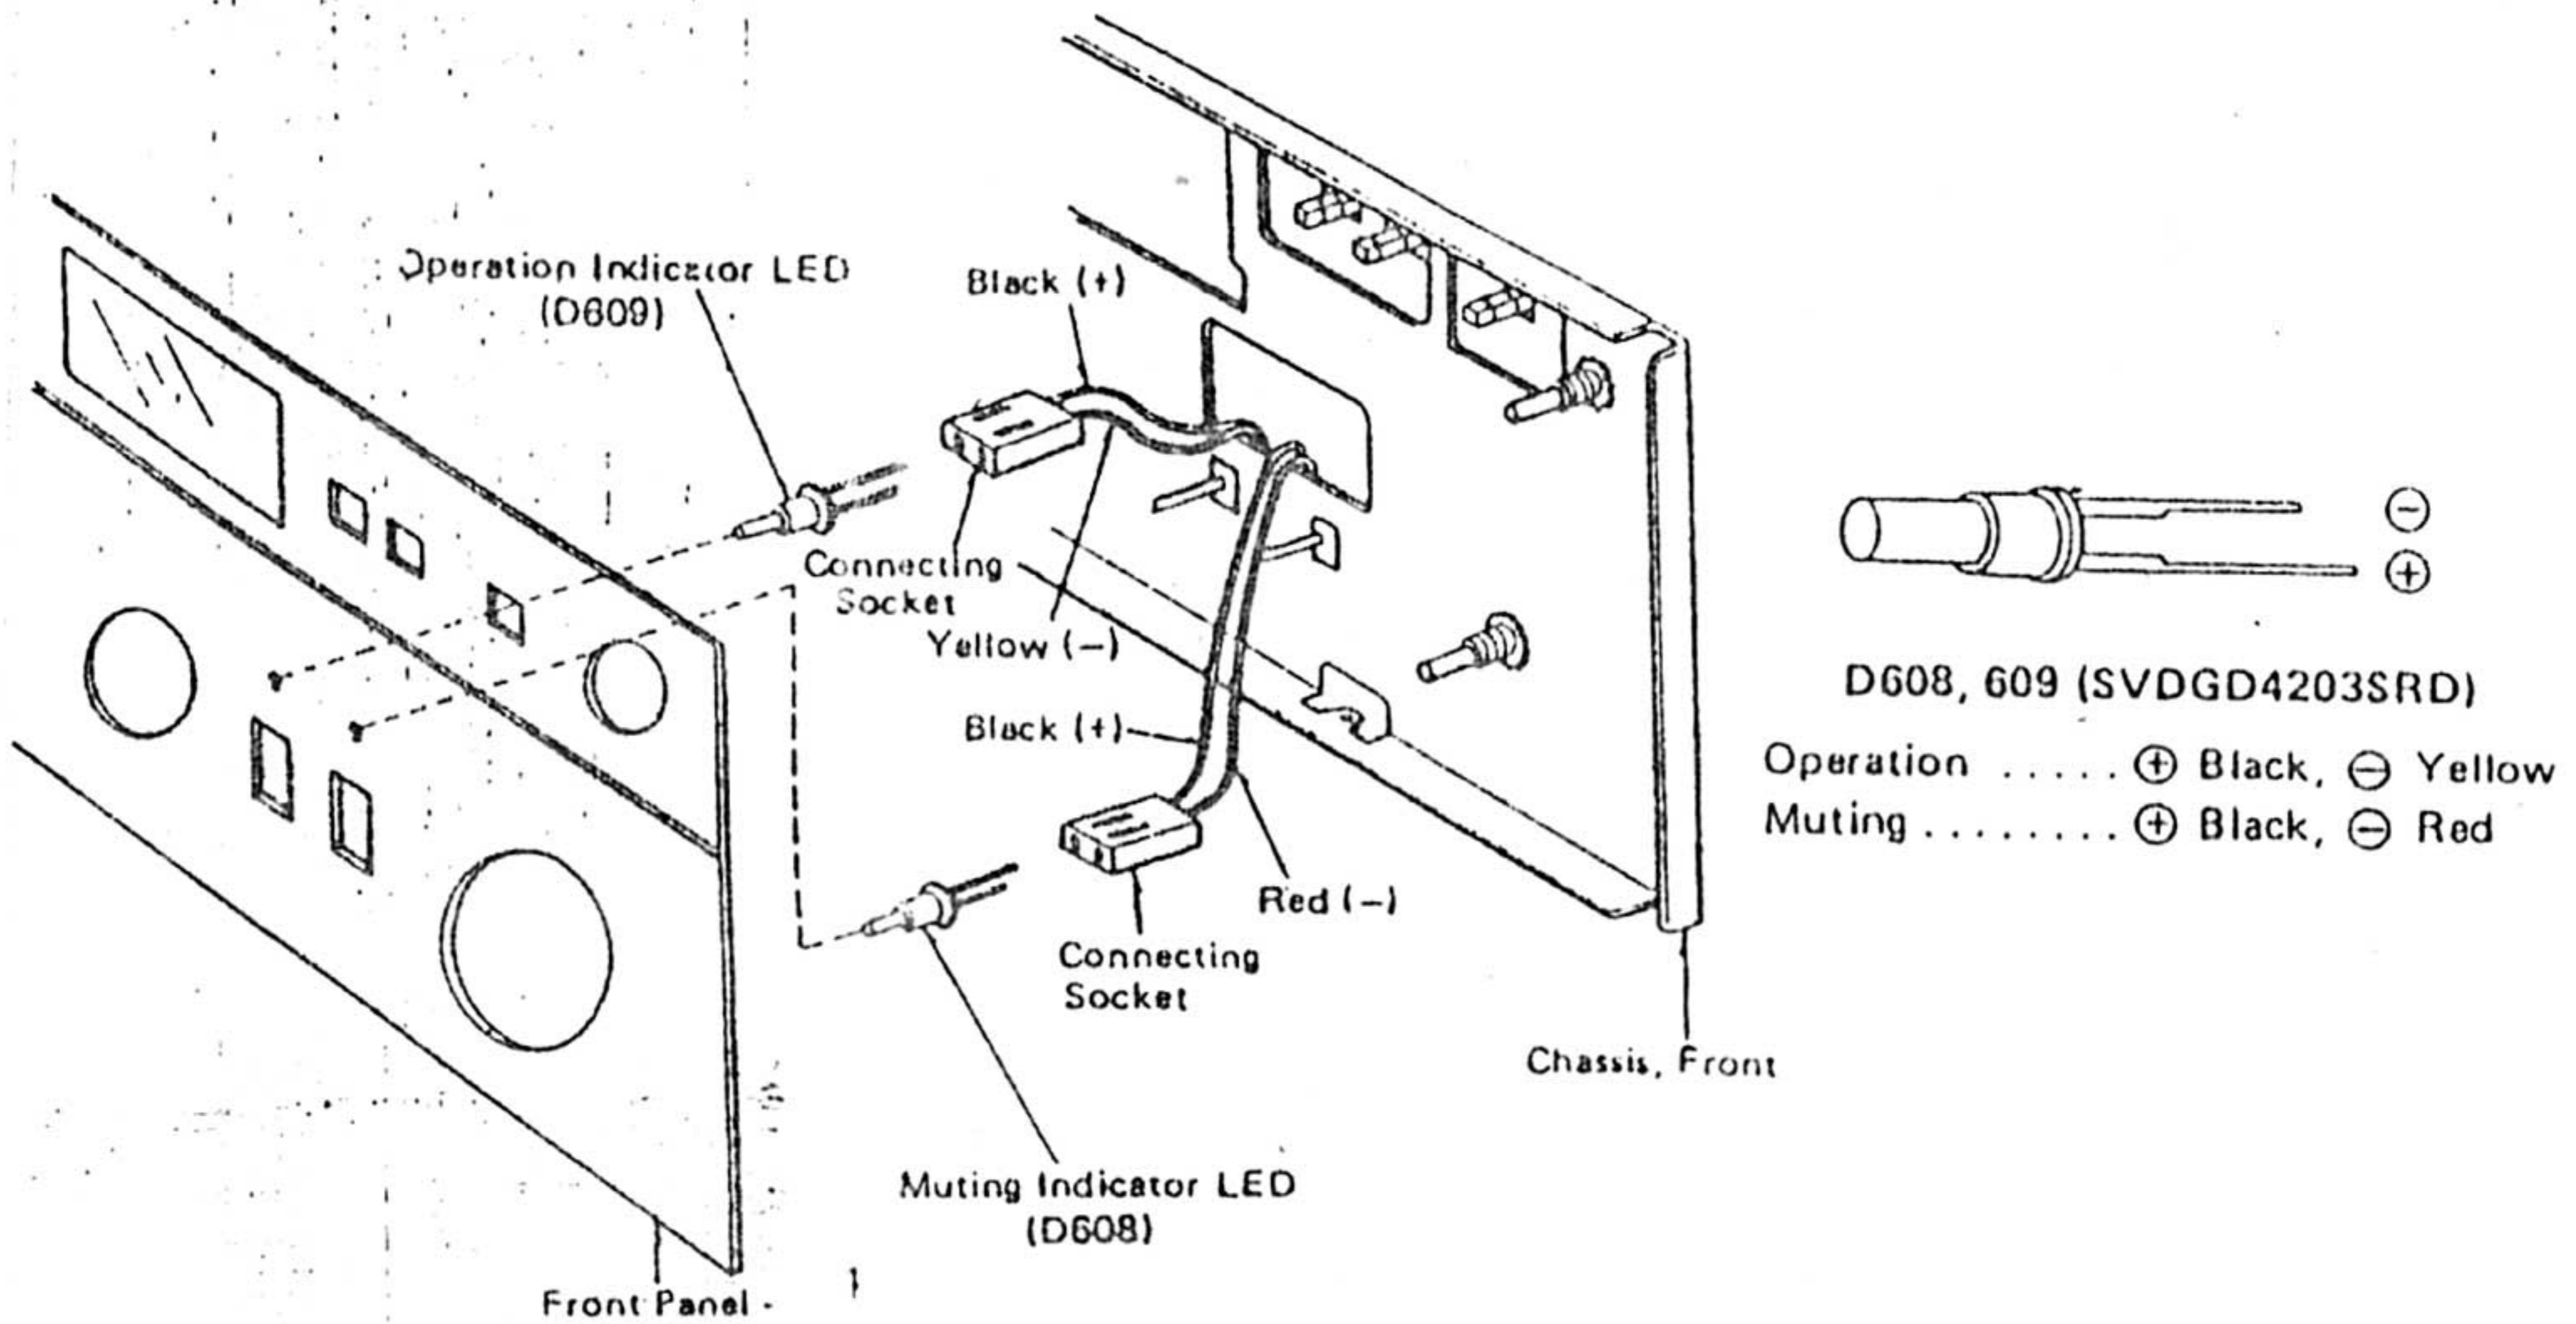

Fig. 1
[Fig. 1]
- When connecting the indicator connecting sockets for operation and muting to indicator LED's (D608, 609), be careful of the polarity. (See Fig. 1)
- 4) Adjust R523 (L ch) while observing the FL power meter until the first segment is about to turn on. (0.3W position of X0.1 range). Refer to fig. 1.